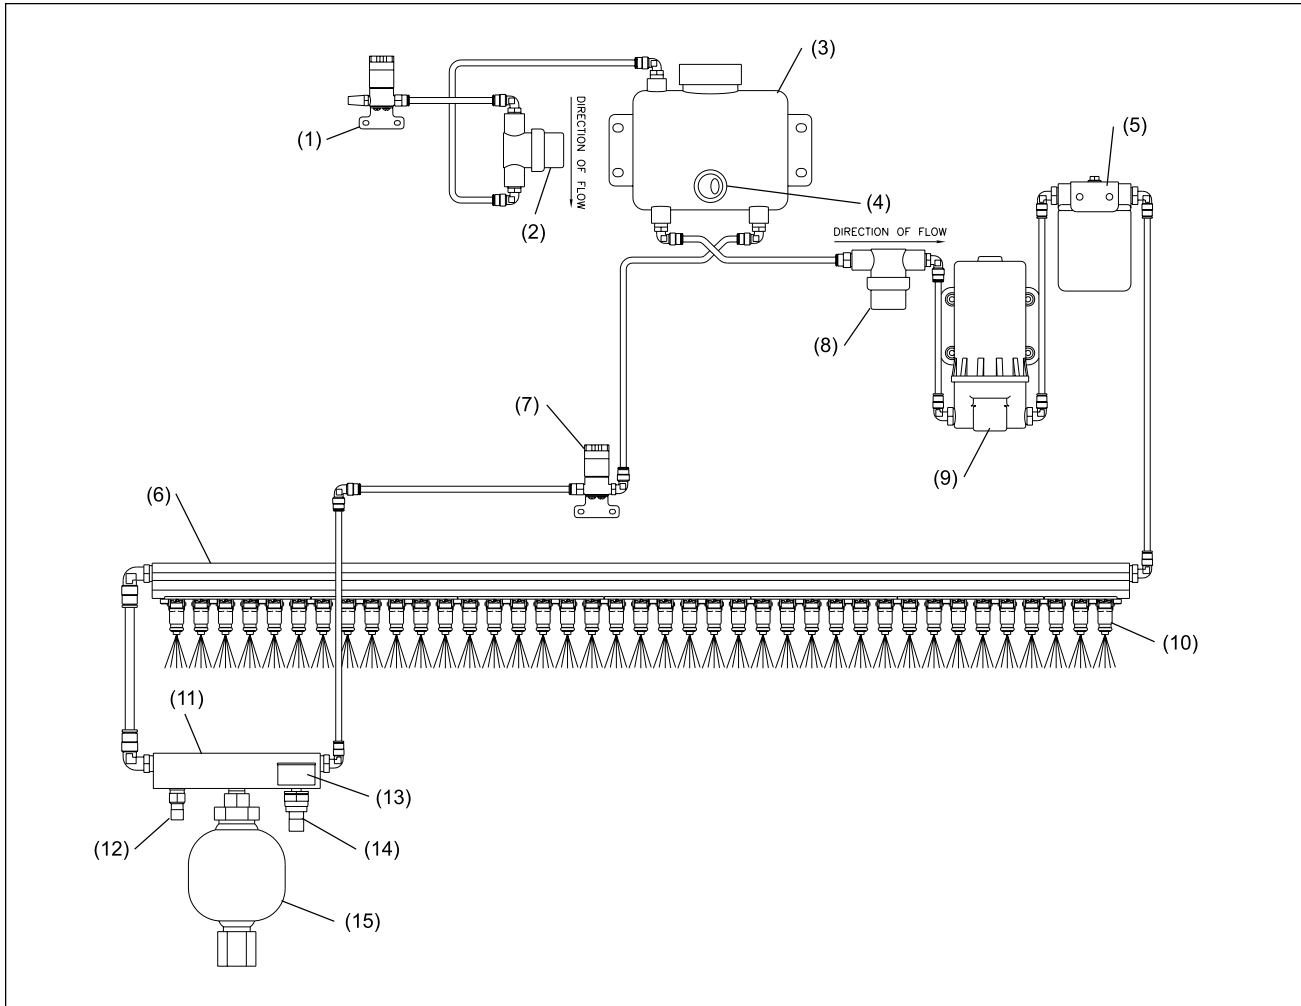

Figure 6-4. Conditioning System
1. The machine applies conditioner directly to the lane surface in a pattern specified by the user. Refer to Figure 6-4.